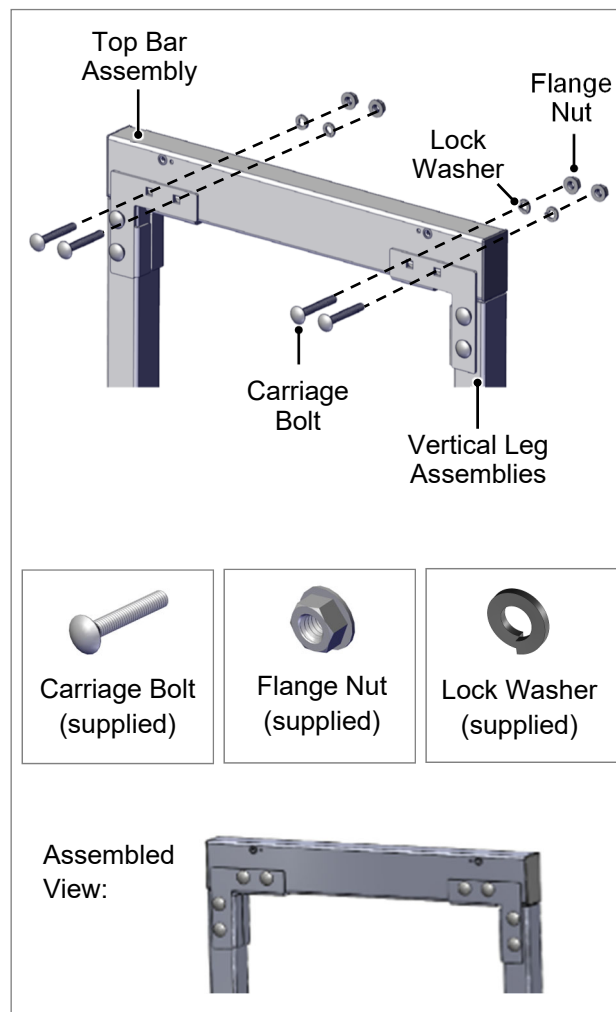

Fig 8. Attach Top Bar Assembly to Vertical Leg Assemblies
6. Attach the Top Bar Assembly to the Vertical Leg Assemblies with four (4) Carriage Bolts, four (4) Flange Nuts, and four (4) lock washers (Fig 8).